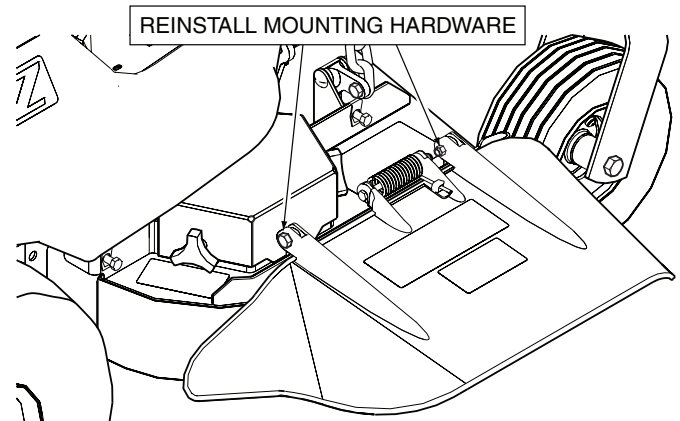

Figure 3-5. Reinstalling the Discharge Chute
- Re-install the cutter deck discharge chute and secure with the original hardware removed in Step 2 during installation of the grass catcher. See Figure 3-5.